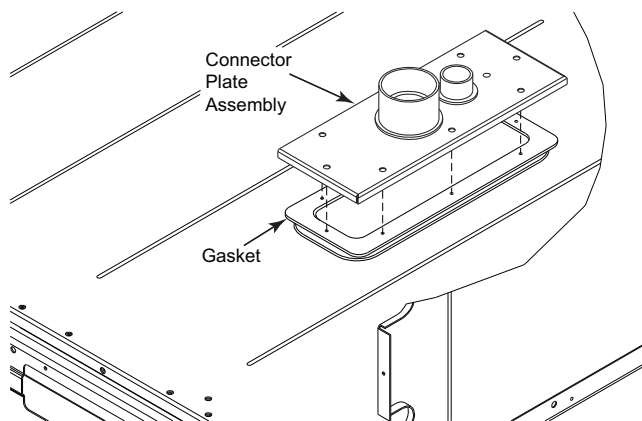

Fig. 40 — Completing Installation of Thru-the-Base Option
- 14. Place the gasket over the embossed area in the basepan, aligning the holes in the gasket to the holes in the basepan. See Fig. 40.